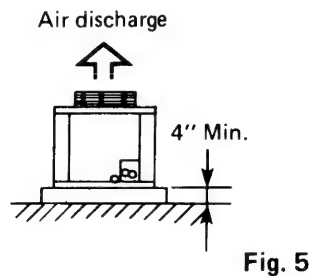

Fig. 5
- provide a solid base; about 4" above ground level to reduce humidity and possible water damage in unit and decrease service life. Fig. 5